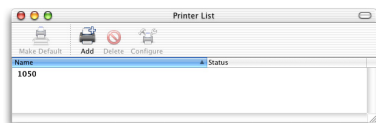

Figure 4—Printer List
3. On the Mac, open **Print Center** to open the Printer List dialog (see Figure 4). You can find this application on the hard drive in the same location as OSX, under **Applications > Utilities**.